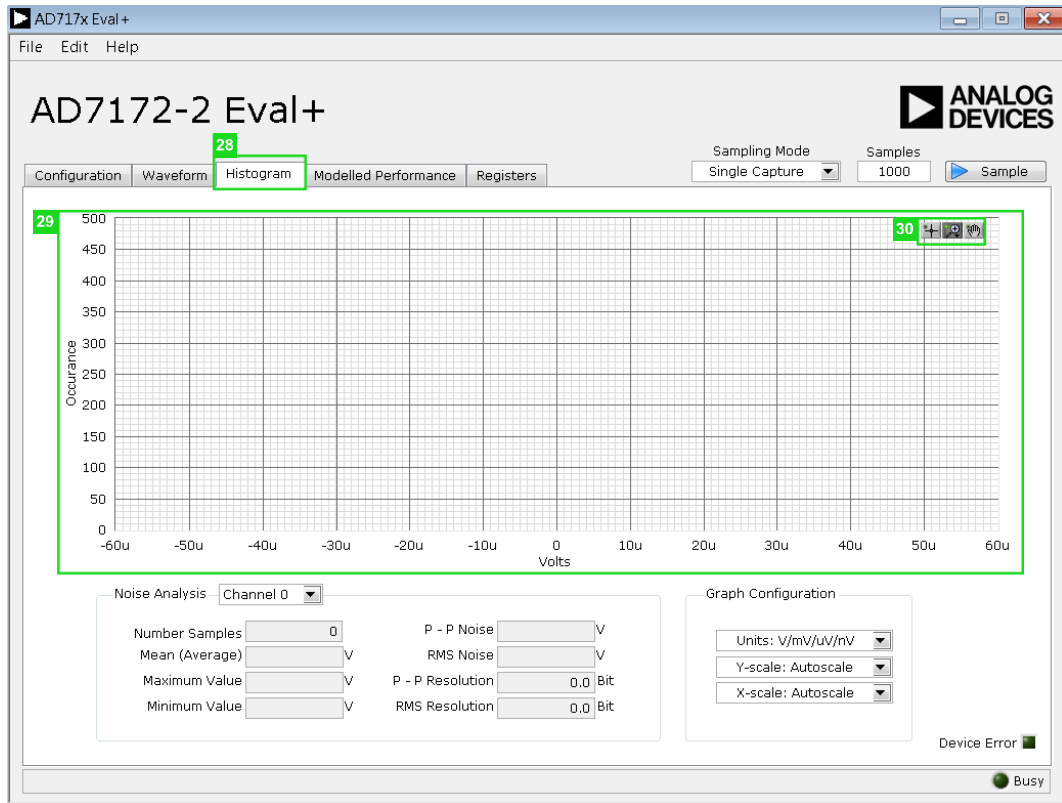

Figure 19. **Histogram** Tab of the AD7172-2 Evaluation Software
In the **Graph Configuration** pane (27), select the **Units:** **V/mV/uV/nV** dropdown menu to select the unit that the data displays in the graph. This control affects the waveform graph (22) and the histogram graph (see Figure 19). The axes controls can be switched between dynamic and fixed. When dynamic
Figure 19 shows the **Histogram** tab (28) of the AD717x Eval+ software.
The histogram graph (29) shows the number of times each sample of the ADC output occurs. The control toolbar (30) in the histogram graph allows you to zoom in on the data (see Figure 19). Click the x-axis and y-axis to change the scales on the graph.